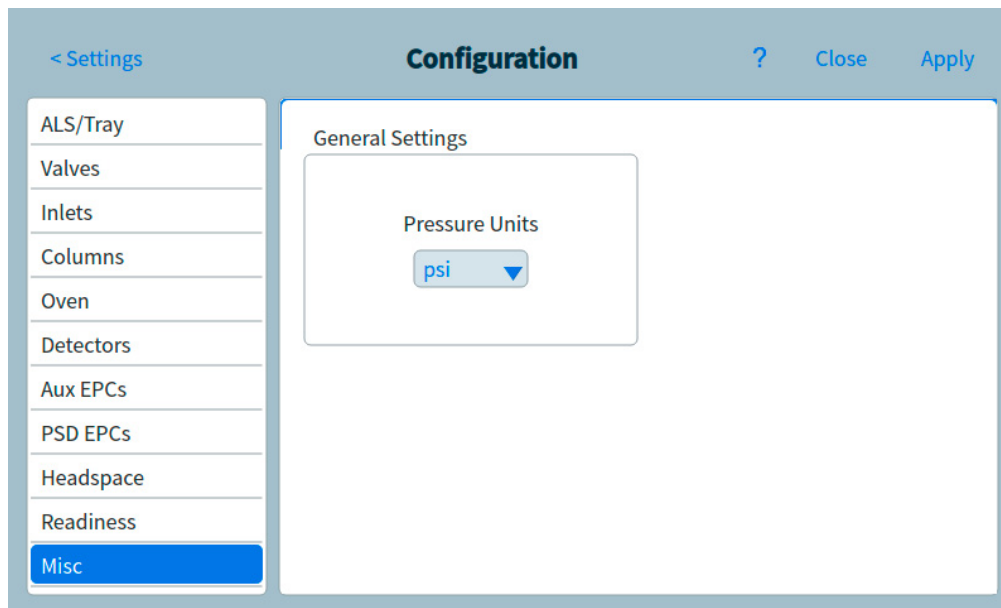

Figure 61. Miscellaneous settings page
- 1 Select **Settings** > **Configuration** > **Misc**. See **Figure 61**.